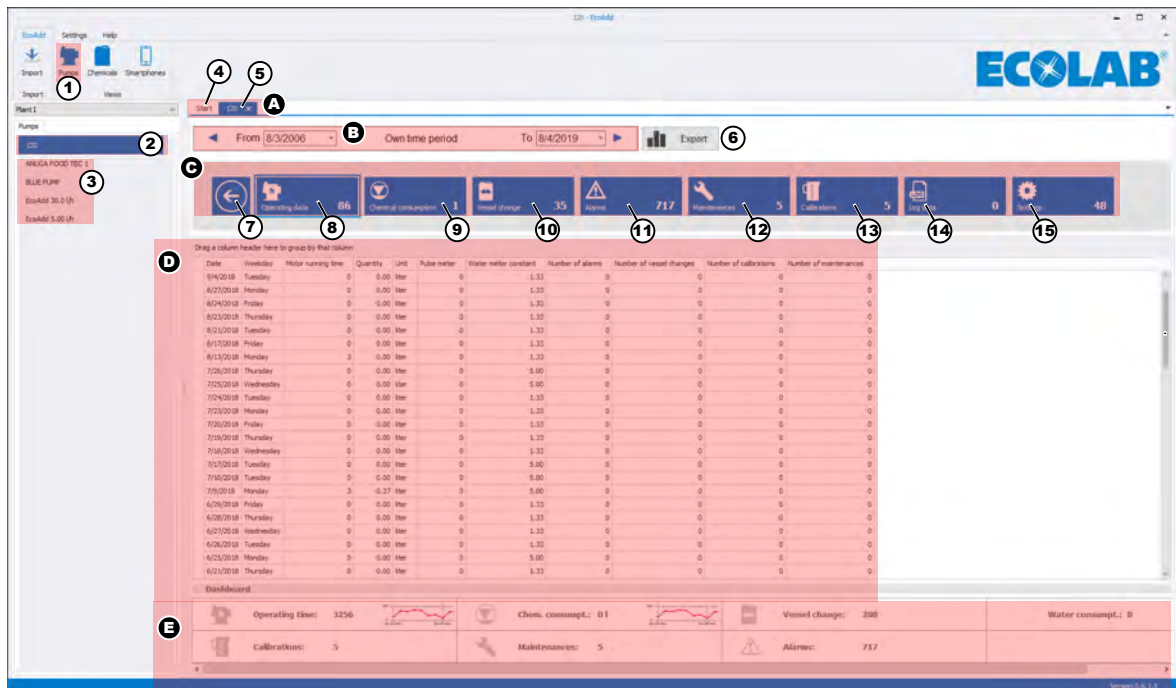

Fig. 22: Analysis screen
After you select a pump (Fig. 22, item 2), you can view all data that has been recorded.
To select another pump, you must select a different pump in the list of entered pumps (Fig. 22, item 3).
When you do this, for comparison purposes (see also Chapter 7.2.3 'Comparison function' on page 38), the system creates a new tab (Fig. 22, item A).
If you need to change the date of the displayed data compared to the default settings, you can do this as shown in Fig. 22, item B.
The date selection also influences the export of data to Microsoft® Excel Format, which you can perform using the [Export] button (Fig. 22, item 6) (see also Chapter 7.2.2.2 'Export function' on page 33).
You can use one of the eight analysis selection buttons (Fig. 22, item C) to select the required time period and the corresponding view (see also Chapter 7.2.2.3 'Data selection and views' on page 34).
The selected data is displayed in tabular form (Fig. 22, item D) and graphical form (Fig. 22, item E).